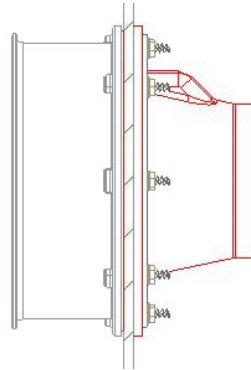

Figure 4
**Step #4 (See Figure 4 and 4A)**